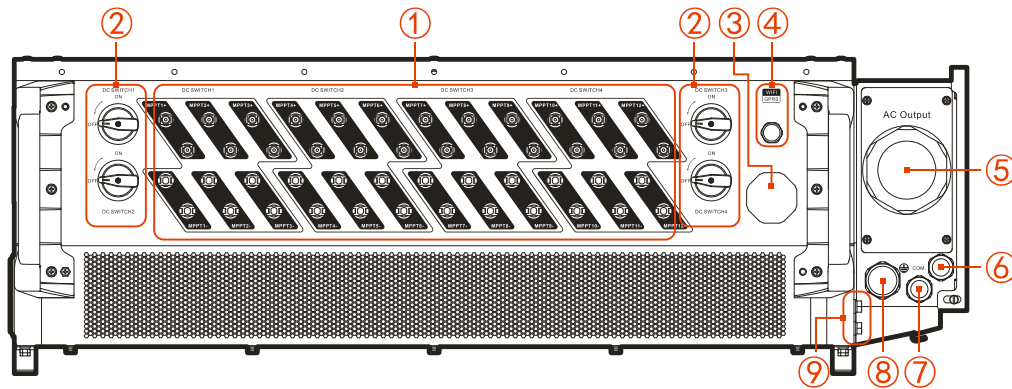

Figure2-6 Floor layout
The inverter floor layout is shown as Figure2-6.
SPI175K-B-H is 18 DC inputs. The connection identifiers MPPT10+ ~ MPPT12+, MPPT10- ~ MPPT12- in Figure 2-6 are not installed with PV connectors, and they are plugged with plugs.
The DC switch (the position is shown as ② in Figure2-6) is the connection switch between the inverter and the PV string, and when necessary, it can safely disconnect. In order to ensure the safety of the operator, make sure that the DC switch is turned off under the following conditions:
WIFI/GPRS communication is mainly used for remote monitoring, and the running information of the inverter can be monitored through the mobile phone APP. WIFI/GPRS interface location is shown as ④ in Figure2-6.